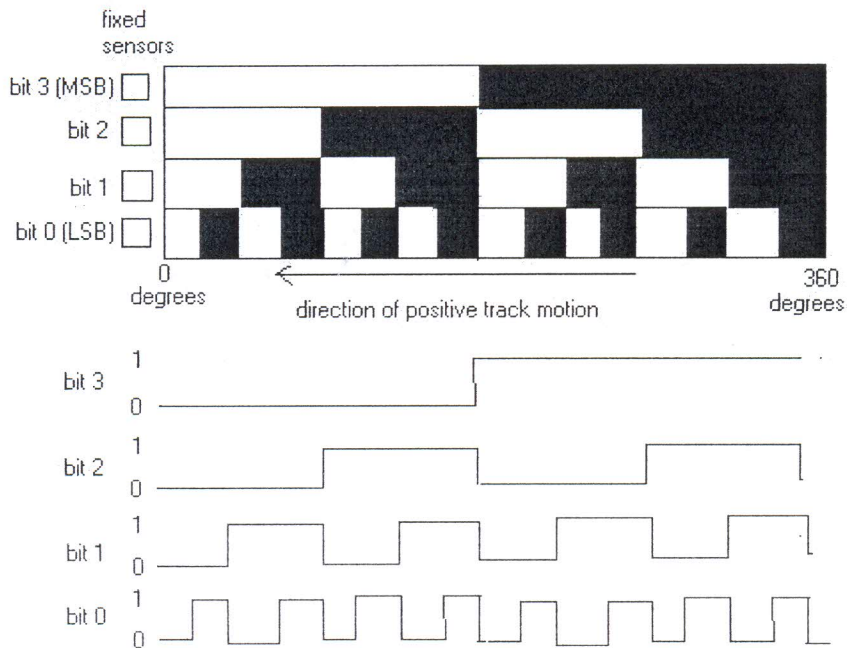

Figure 4: 4-Bit binary code absolute encoder disk track pattern
- i. State **three (3)** considerations when choosing a flow sensor. (3 marks)
- (b) A Robot Arm is being engaged directly to absolute optical encoder with the output bit as in **Figure 4**.